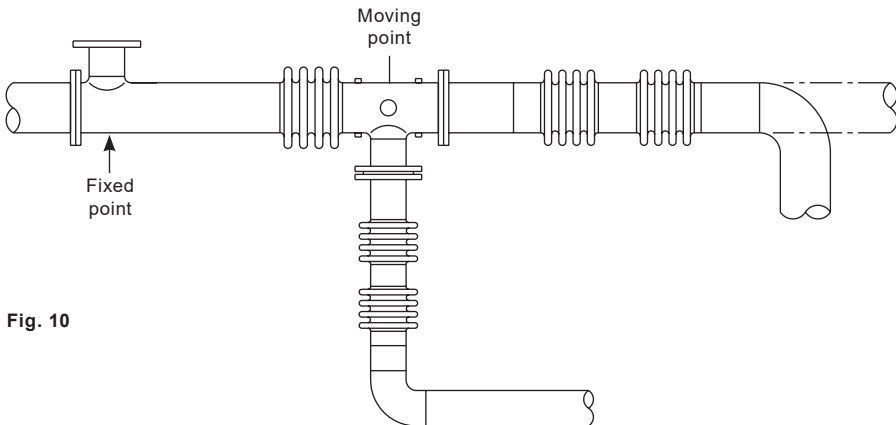

Fig. 10
- 4.9** Figure 10 illustrates the possible tubing connections. It is also acceptable to use large bended tubes or flexible connections.